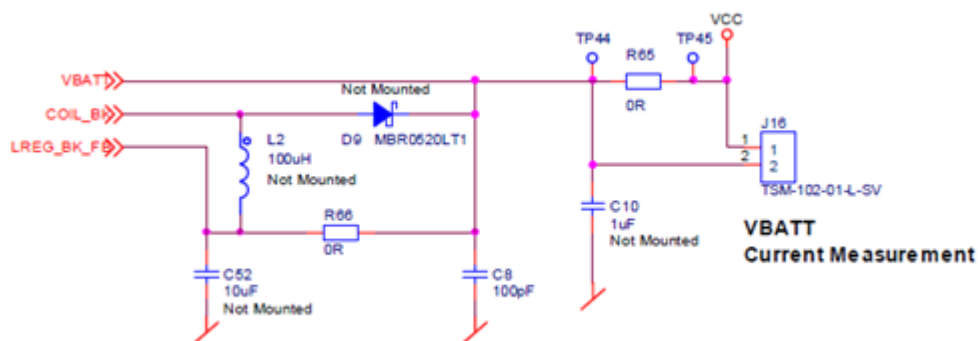

Figure 6. Total current to MC1322x IC measurement through J16
- Total current to the MC1322x IC. R65 can be removed and current can be measured through jumper J16. Figure 6 shows example circuit.